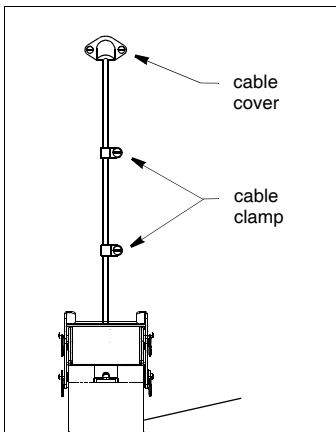

Figure 1. Cable clamps, cover
1. Increase the slack in the cable by removing any cable clamps and cable cover (see Figure 1). Set the parts aside to reuse.
- If you have removed the cable cover and/or cable clamps for easier installation, reattach them (see Figure 1). Apply marine sealant to the threads of the #6 x 1/2" self-tapping screws to prevent water from seeping into the transom. If there is a hole drilled through the transom, apply marine sealant to the space around the cable where it passes through the transom. Position the two cable clamps and fasten them in place. If used, push the cable cover over the cable and screw it in place.